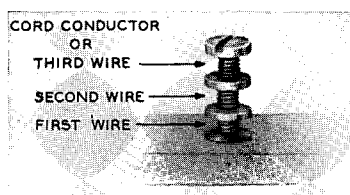

FIG. 1—CONNECTING BLOCKS—TERMINATIONS
4.01 Terminations of cables, wires, and cords are shown in Fig. 1.